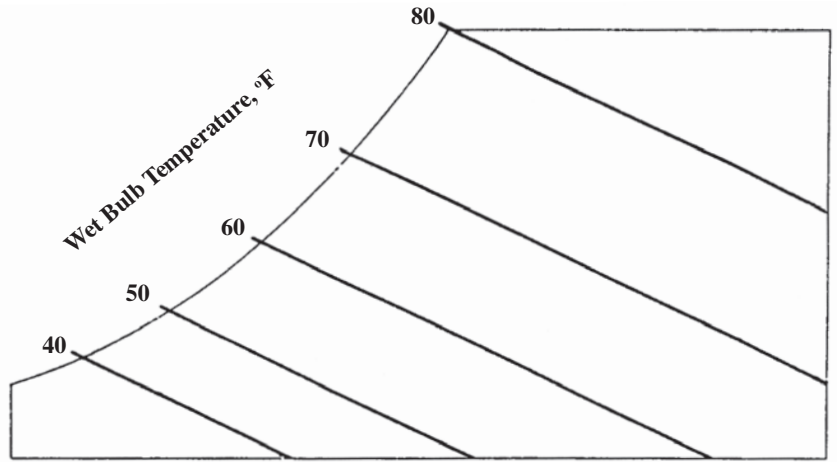

Figure 3. Wet bulb temperature lines.
2. **Wet bulb temperature** reflects the cooling effect of evaporating water. This effect is often used to cool livestock buildings and some homes, and is the cooling process when we perspire. Wet bulb temperature can be determined by passing air over a thermometer that has been wrapped with a small amount of moist cloth. The cooling effect of the evaporating water causes a lower temperature compared to the dry bulb air temperature. The wet bulb temperature scale is located along the curved upper left portion of the chart. The sloping lines indicate equal wet bulb temperatures (*Figure 3*).